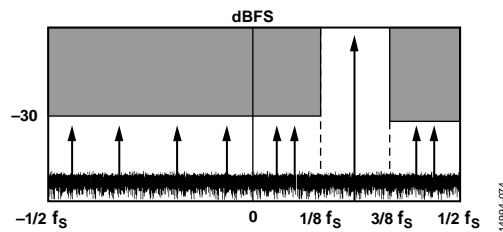

Figure 86. 25% VDR Bandwidth, Complex Mode
The complex mode of VDR works with selectable bandwidths of 25% of the sample rate (50% of the Nyquist band) and 43% of the sample rate (86% of the Nyquist band). Figure 86 and Figure 87 show the frequency zones for VDR in the complex mode. When operating VDR in complex mode, place in-phase (I) input signal data in Channel A and place quadrature (Q) signal data in Channel B.
Figure 86 shows the frequency zones for the 25% bandwidth VDR mode with a center frequency of $f_s/4$ (tuning word = 0x04). The frequency zones where the amplitude may not exceed -30 dBFS are the upper and lower portions of the Nyquist band extending into the complex domain.